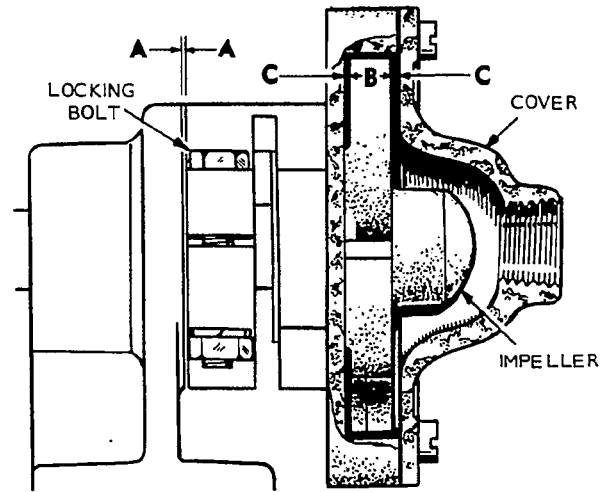

FIGURE 7. WATER PUMP CLEARANCES
After pump has been assembled (see Figure 7), the impeller (B) must be centered in body cover space (C-C). Adjustment is made by moving pump body fore and aft until shaft can be rotated freely by hand without binding. Pump must be adjusted with the drive belt off. If not centered properly, impeller will rub on the body or cover and quickly overheat. Clearance (A-A) may vary from zero to 1/16 inch (1.6 mm). Tighten lock screw when adjustment is correct being careful not to alter the setting.